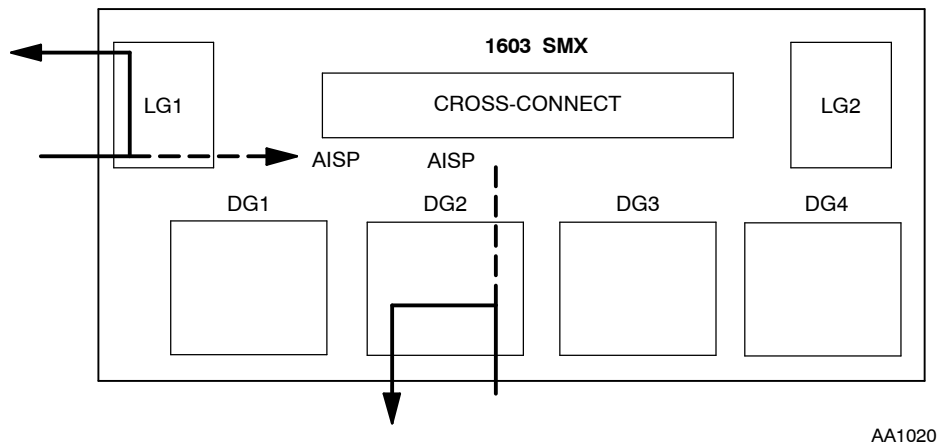

Figure 2. OC3 Loopback Toward Facility
- 6 See Figure 2. Operate a loopback toward the facility: